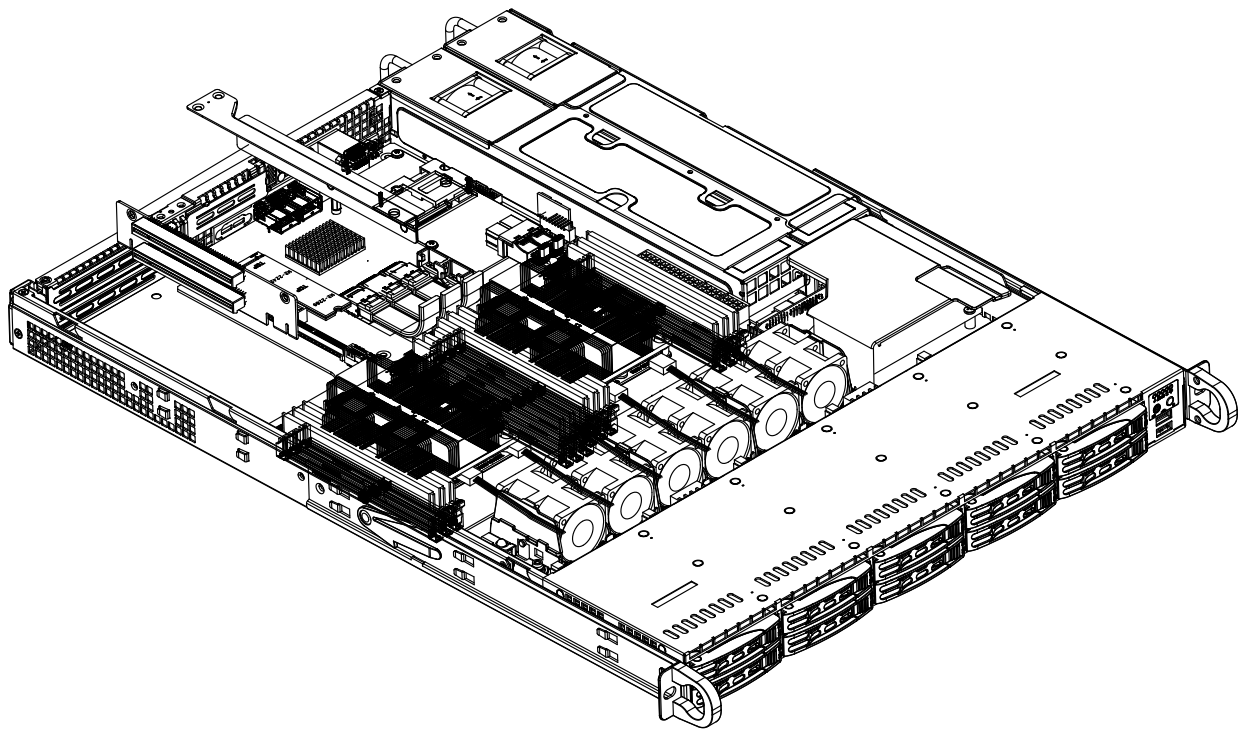

Figure 3-4. Installing Expansion Cards
- IPMI > Server Health > NVMe SSD – Shows the temperatures of all NVMe drives, as in Figure 3-4.